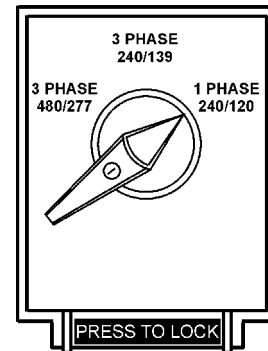

Figure 38. Voltage Selector Switch
1. Place the **voltage selector switch** in the desired voltage position (Figure 38).